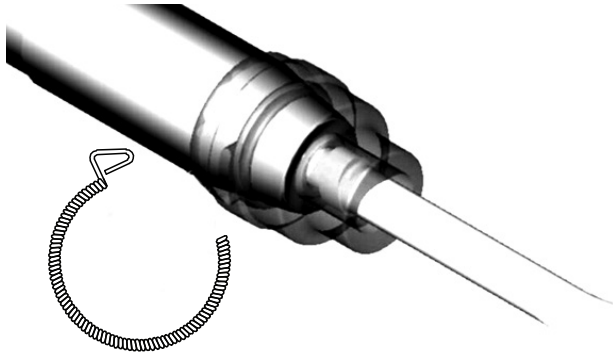

Fig. 5
8. Re-insert the Lockcoil Spring (17) all the way into the slot on the sleeve with only the triangular wire ring left outside (see Fig. 5). Pull on the chisel vigorously to make sure the chisel is securely locked into the Retaining Sleeve (16) before attaching the Chipping Hammer to an air source.